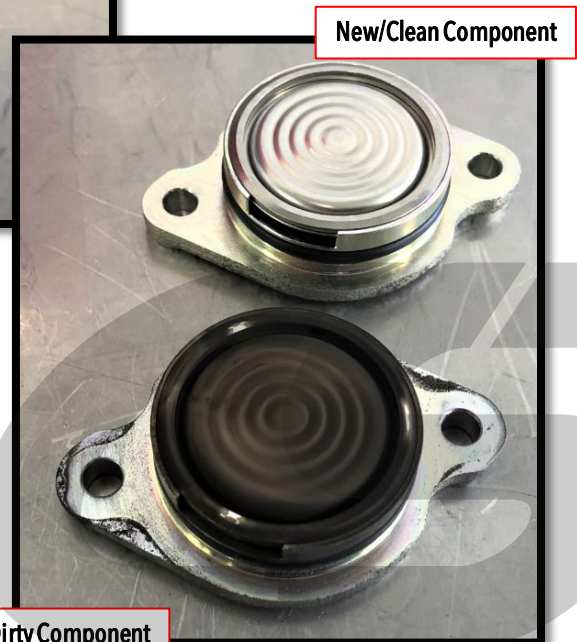

Figure 2b
- b) The HPFP housing is now stripped down and ready for cleaning. We recommend using brake cleaner and q-tips to remove all the old fuel debris and discoloration. Clean all portions of the HPFP housing carefully to prevent any damage and to ensure you get the housing as clean as you can. **Figure 2b** shows an example of a dirty and brand new pump component for reference on why cleaning is important.
- h) The fuel feed/return fitting is now stripped down and ready for cleaning. We recommend using brake cleaner and q-tips to remove all the old fuel debris and discoloration. Clean all portions of the fuel feed/return fitting carefully to prevent any damage and to ensure you get the fitting as clean as you can. **Figure 2b** on page 7 shows an example of a dirty and brand new pump component for reference on why cleaning is important.
- c) The mechanical damper is now stripped down and ready for cleaning. We recommend using brake cleaner and q-tips to remove all the old fuel debris and discoloration. Clean all portions of the mechanical damper carefully to prevent any damage and to ensure you get the damper as clean as you can. **Figure 2b** on page 7 shows an example of a dirty and brand new pump component for reference on why cleaning is important.
- i) The spill valve is now stripped down and ready for cleaning. We recommend using brake cleaner and q-tips to remove all the old fuel debris and discoloration. **Avoid the plastic connector when cleaning to prevent chemical damage to this plug.** Clean all metal portions of the spill valve carefully to prevent any damage and to ensure you get the spill valve as clean as you can. **Figure 2b** on page 7 shows an example of a dirty and brand new pump component for reference on why cleaning is important.